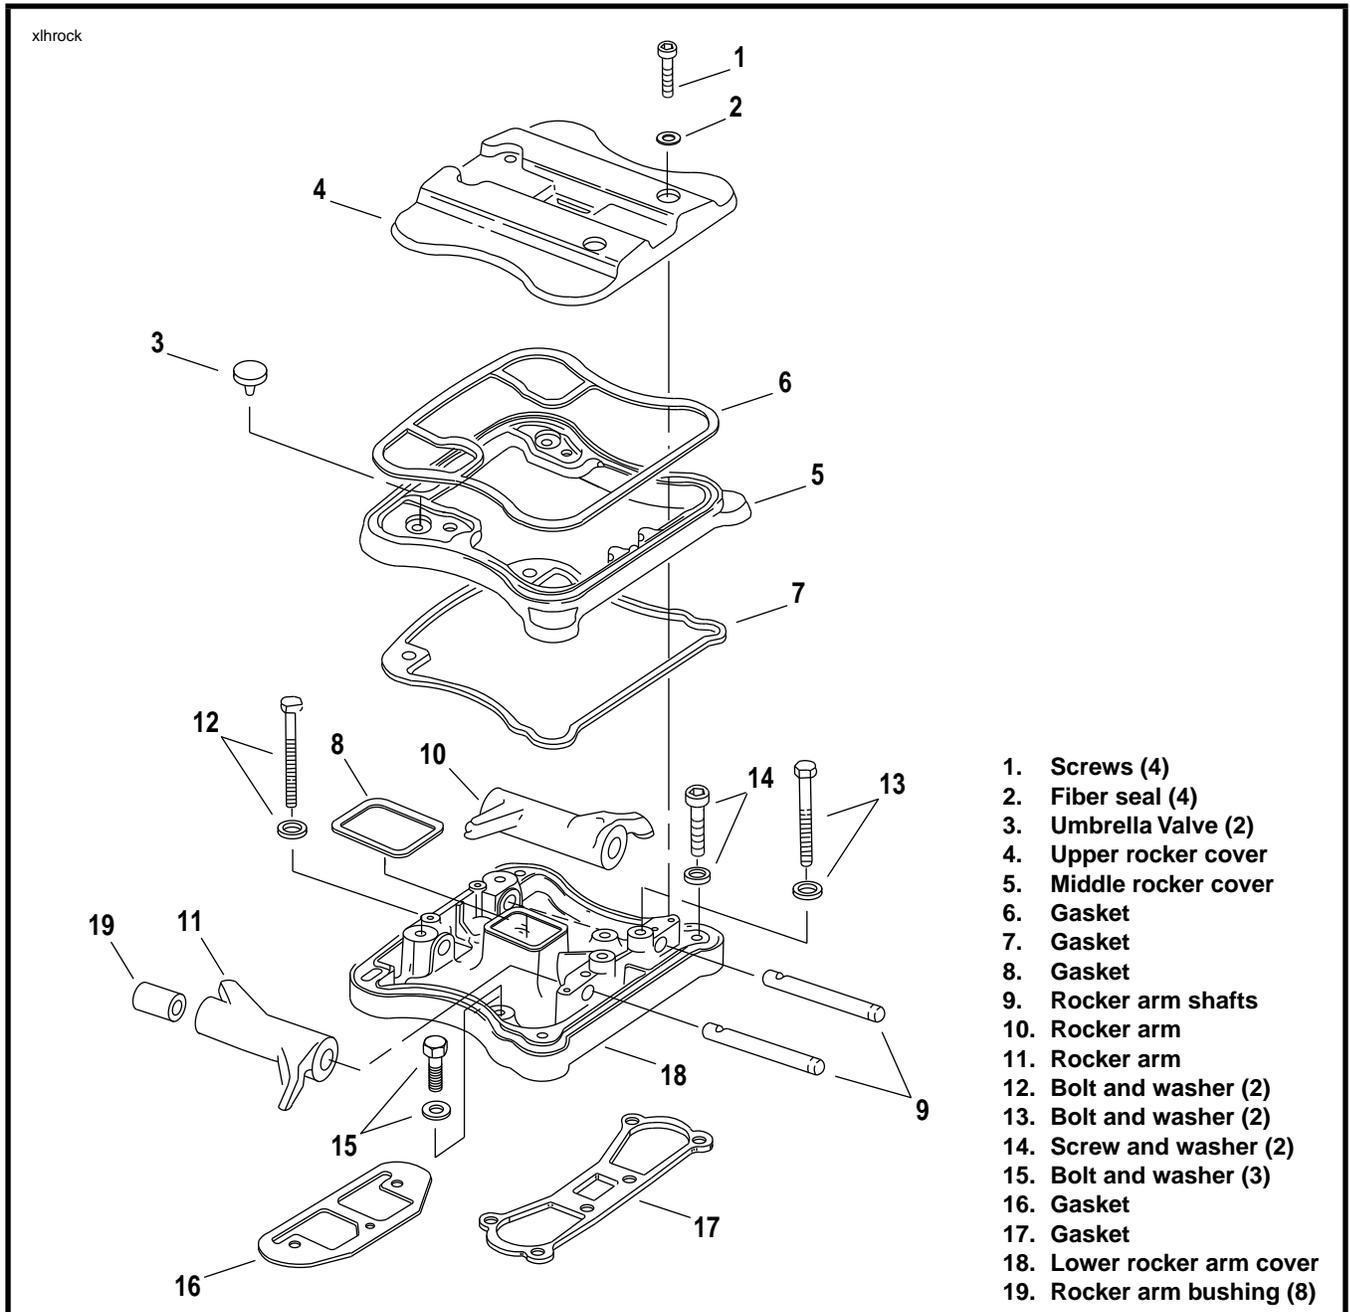

Figure 3-5. Rocker Arm Cover
1. See Figure 3-5. Remove screws (1) and fiber seals (2). Discard fiber seals.
2. Remove top (4) and middle (5) sections of rocker box. Remove and discard gaskets (6, 7 and 8).
8. See Figure 3-5. Remove rocker arms (10, 11); mark them for reassembly in their original locations.